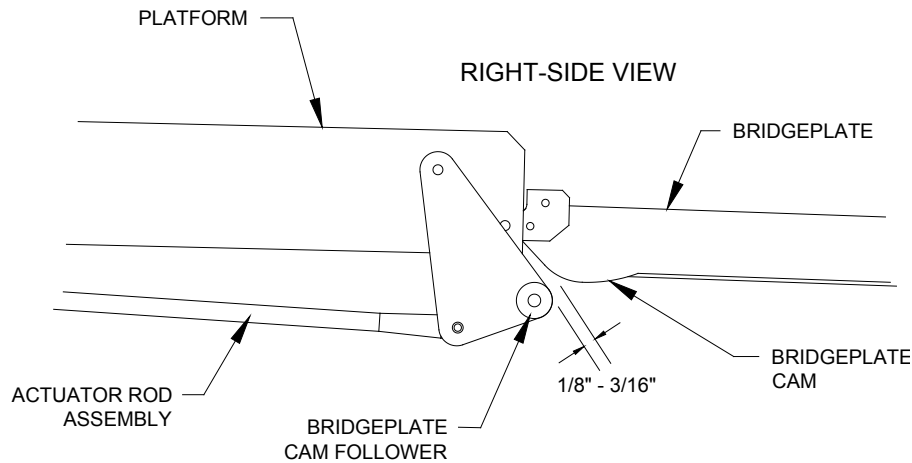

FIGURE 2-4: BRIDGEPLATE ADJUSTMENT
- h. Refer to **Figure 2-4**. Turn left-side rod-end to achieve a clearance of 1/8" to 3/16" (3mm to 5 mm) between bridgeplate cam and bridgeplate cam follower when shoulder bolt and spacer are installed. Tighten shoulder bolt, then tighten rod-end jam-nut.